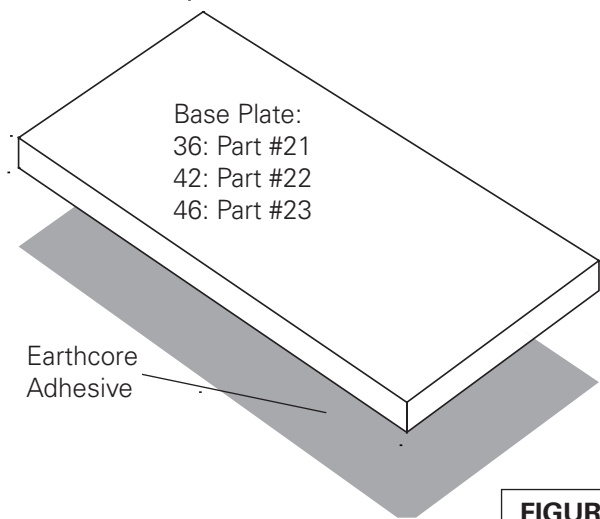

FIGURE 17
1. Set the base plates in a full bed of Earthcore Adhesive on a level support surface. See page 22 for supporting floor system. **(Figure 17)**. Do not set the base plate so that it is in span.